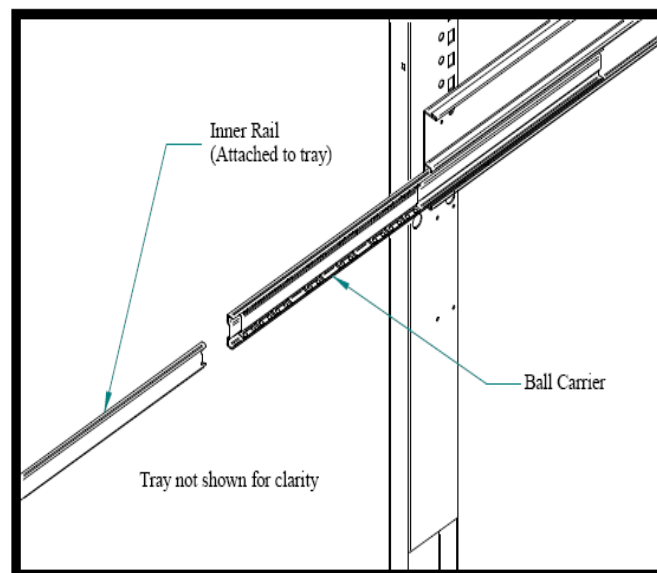

Figure 5.1 Bottle Tray Rails
2. Move the ball carriers out to the ends of the slide rails (Refer to Figure 5.1) and hold in position.